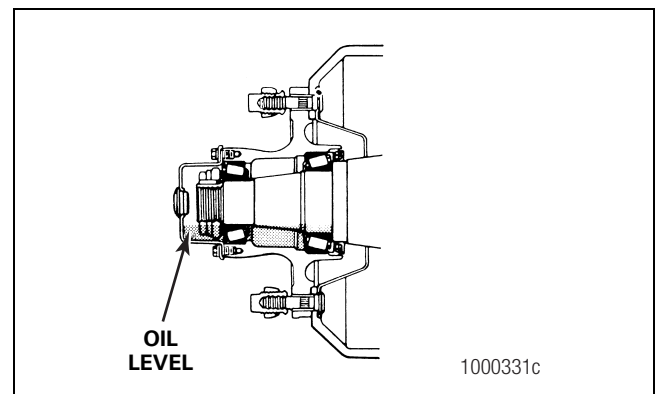

Figure 9.13
2. Add the specified oil until the oil is at the specified level. Figure 9.13.